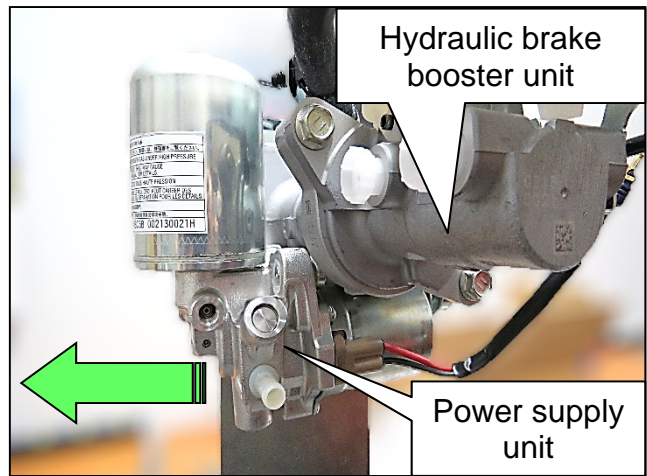

Figure 17
16. Remove the power supply unit from the hydraulic brake booster unit by pulling the power supply unit in the direction shown in Figure 17.